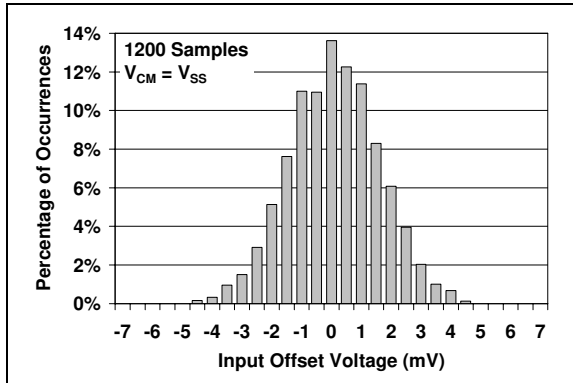

**FIGURE 1-3:** AC and DC Test Circuit for the Push-Pull Output Comparators.
**Electrical Specifications:** Unless otherwise indicated,  $V_{DD} = +1.6V$  to  $+5.5V$ ,  $V_{SS} = GND$ ,  $T_A = +25^{\circ}C$ ,  $V_{IN+} = V_{DD}/2$ ,  $V_{IN-} = V_{SS}$ , and  $R_L = 100\text{ k}\Omega$  to  $V_{DD}/2$  (Refer to Figure 1-3).
**Electrical Specifications:** Unless otherwise indicated,  $V_{DD} = +1.6V$  to  $+5.5V$ ,  $V_{SS} = GND$ ,  $T_A = +25^\circ C$ ,  $V_{IN+} = V_{DD}/2$ ,  $V_{IN-} = V_{SS}$ , and  $R_L = 100\text{ k}\Omega$  to  $V_{DD}/2$  (Refer to Figure 1-3).
**Electrical Specifications:** Unless otherwise indicated,  $V_{DD} = +1.6V$  to  $+5.5V$ ,  $V_{SS} = GND$ ,  $T_A = +25^\circ C$ ,  $V_{IN+} = V_{DD}/2$ , Step = 200 mV, Overdrive = 100 mV, and  $C_L = 36\text{ pF}$  (Refer to Figure 1-2 and Figure 1-3).